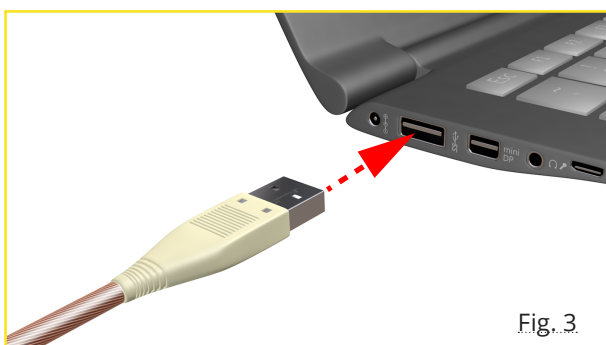

Fig. 3
2. Insert the USB-A grounding plug into a suitable USB socket in your notebook. Look at Fig. 3.